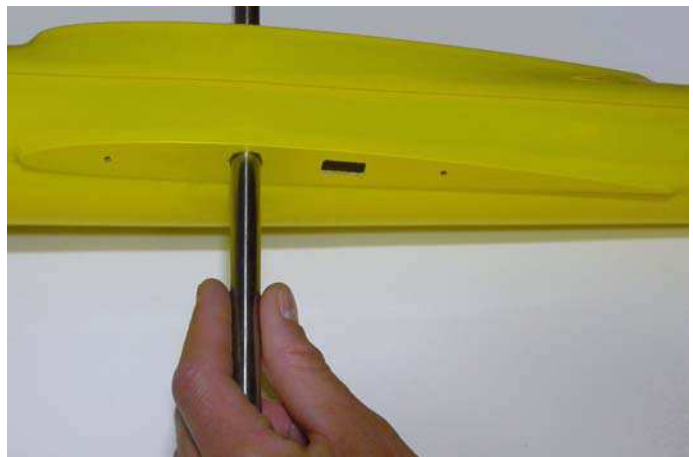

Fig.57: Insert the wing rod into its housing.
- Insert the wing rod "BAIO" into its housing (see figure 57);